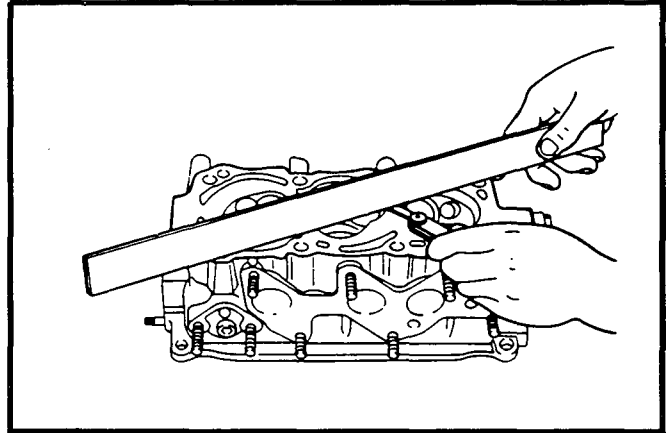

Figure 30.
1. Thoroughly check the cylinder head for crack or damage. Measure the cylinder head surface for distortion. **Allowable limit: 0.004 inch (0.1 mm).** See Figure 30.